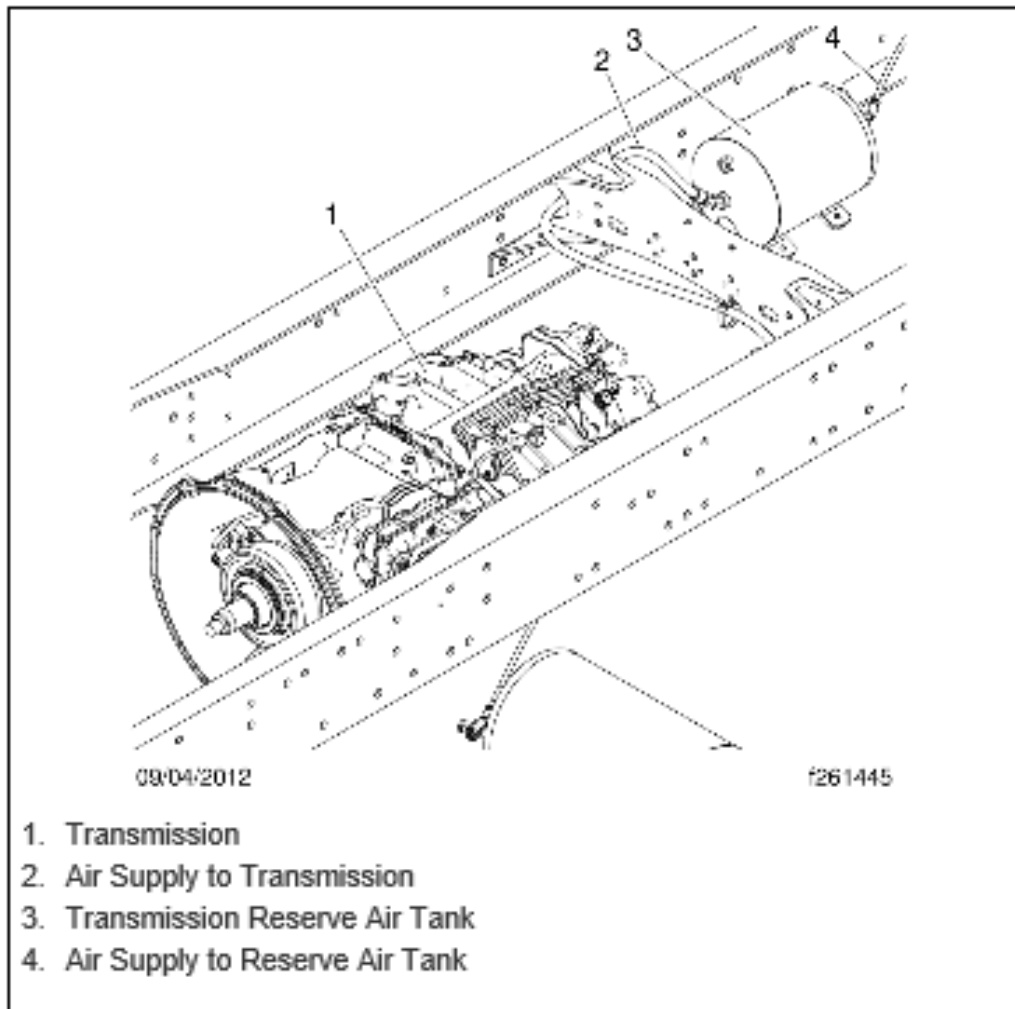

Fig. 2, Isolated Transmission Reserve Air Tank (typical installation)
13. Drain the main air system and the isolated transmission reserve air tank. See Fig. 2 .